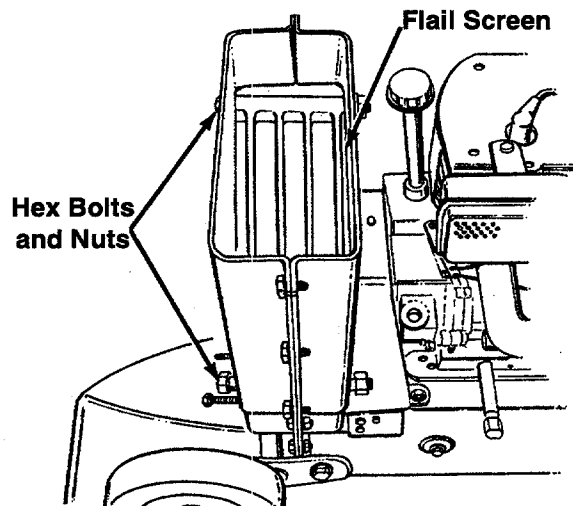

Figure 15
4. Remove the two hex bolts and hex nuts which extend through the housing. Lift the flail screen from inside the housing. See Figure 15.
**NOTE:** Be certain to reassemble the flail screen with the curved side down as shown in Figure 15.